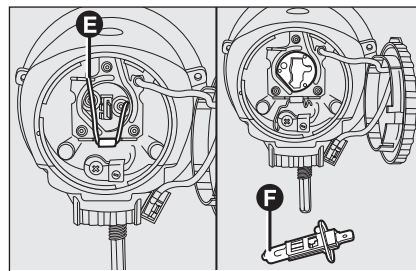

fig. 31
- release clip **E**-fig. 31 and remove the bulb **F**;